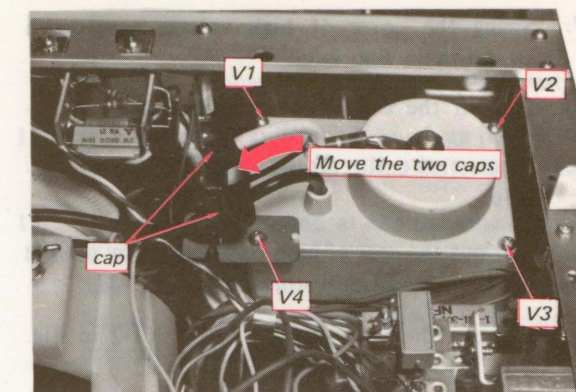

Fig. 2-32. High-voltage insulator case removal
3. Move the two caps (on the lid of insulating case) along the leads to the anode caps. (See Fig. 2-32.)
4. Remove the four screws labeled V1-4 in Fig. 2-32.